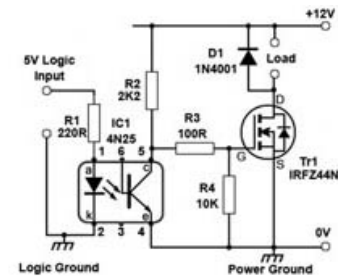

Fig.4.7.4
8. In the circuit shown in Fig.4.7.4, what is the purpose of R4?